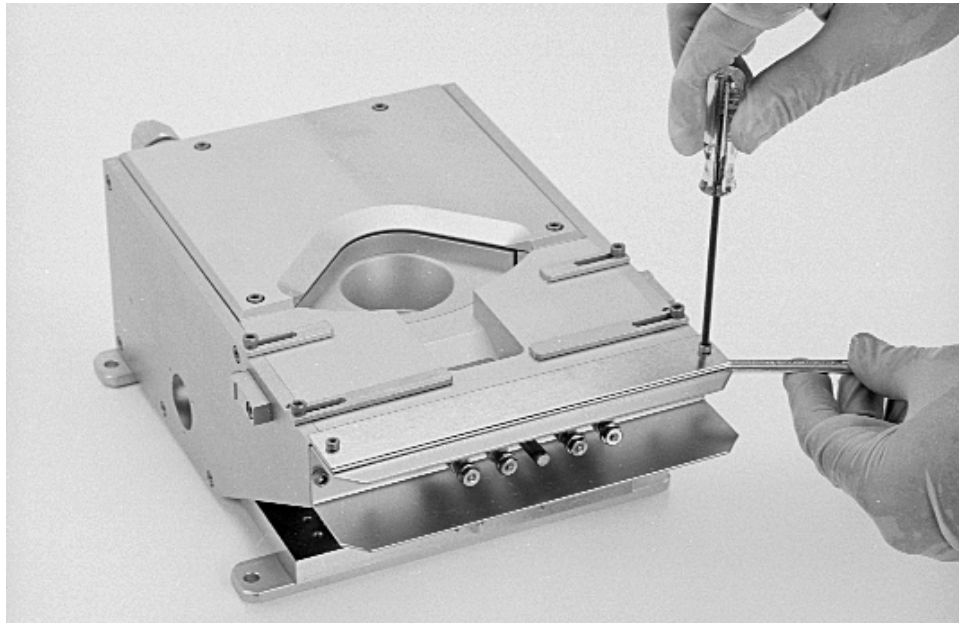

Figure 5-2. Removing the shunt
Step 2: Remove shunt(s), if present, from top of coil shield. To do so, turn the 6-32 1/2" mounting screws while holding the securing nuts with a 1/4" end wrench, as shown in Figure 5-2.